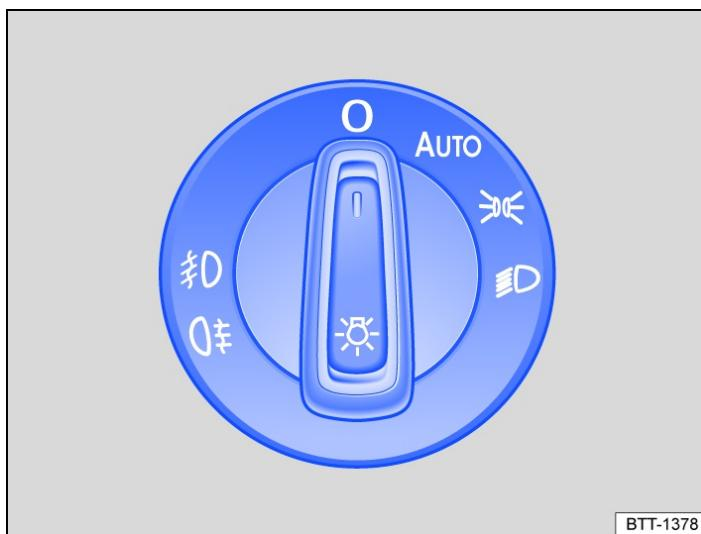

Fig. 1 Next to the steering wheel: light switch (one variant).
- Turn the light switch to the appropriate position → *Fig. 1*: